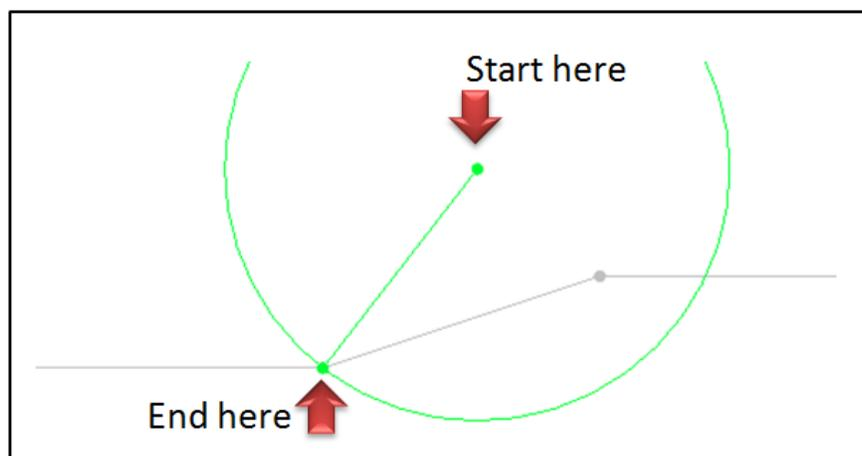

Figure 12. Creating the starting circle.
3. Create the arc by clicking on a starting point somewhere above the slope and double-clicking on a point near the toe of the slope as shown in Figure 12.